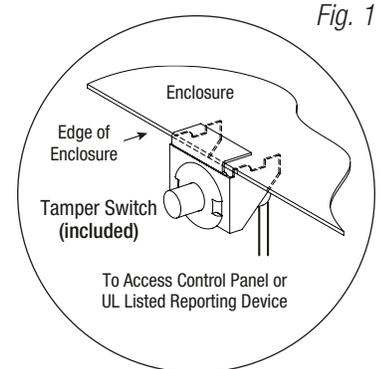

Fig. 1
3. Mount included UL Listed tamper switch (Altronix Model TS112 or equivalent) in desired location, opposite hinge. Slide the tamper switch bracket onto the edge of the enclosure approximately 2" from the right side (Fig. 1, pg. 2). Connect tamper switch wiring to the Access Control Panel input or the appropriate UL Listed reporting device. To activate alarm signal open the door of the enclosure.